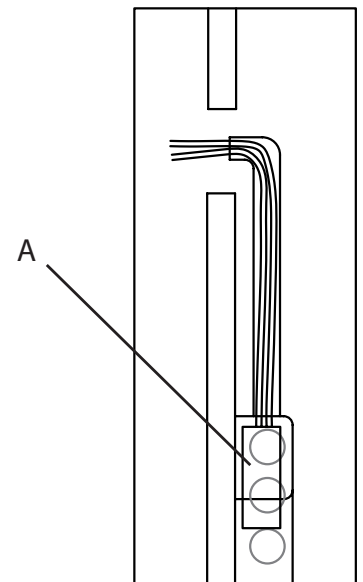

Fig. 4
2. The power supply (A) must be installed in a remote and accessible location near the Rail (B) in accordance with local electrical code (Fig. 4). Make appropriate connections:
4. Complete attaching the bar to the wall by screwing in the last 2 screws (D).